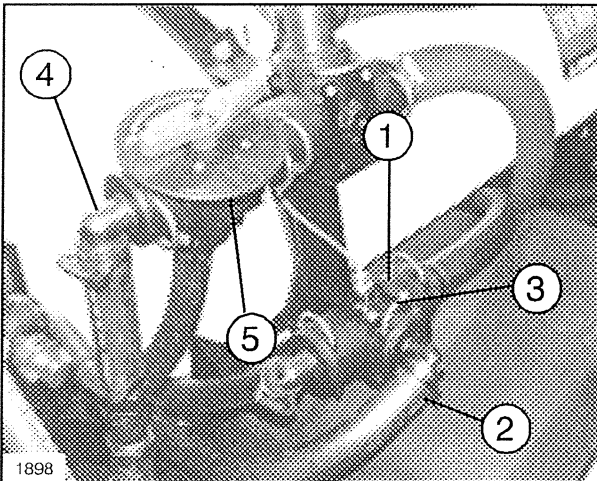

**FIG. 9**
22. Route wiring harness across rear of vehicle and secure to Valve Mounting Bar with Tie Straps. (See FIG. 9)